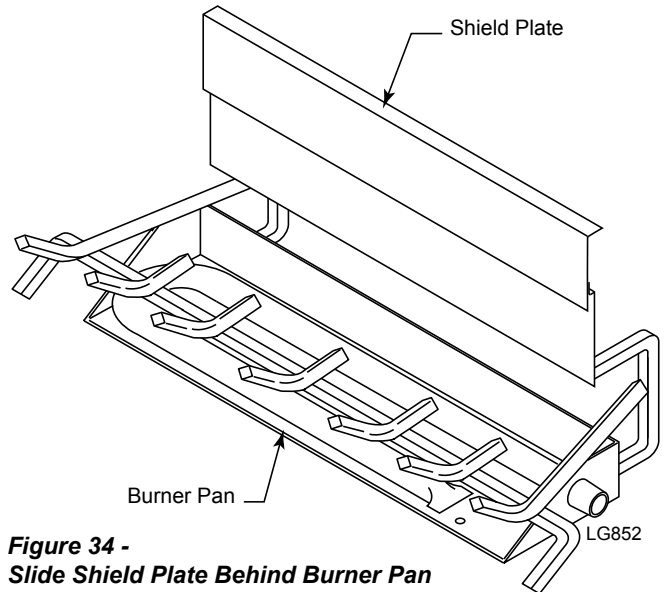

Figure 34 - Slide Shield Plate Behind Burner Pan
1. Slide shield plate behind burner pan. *Figure 34*